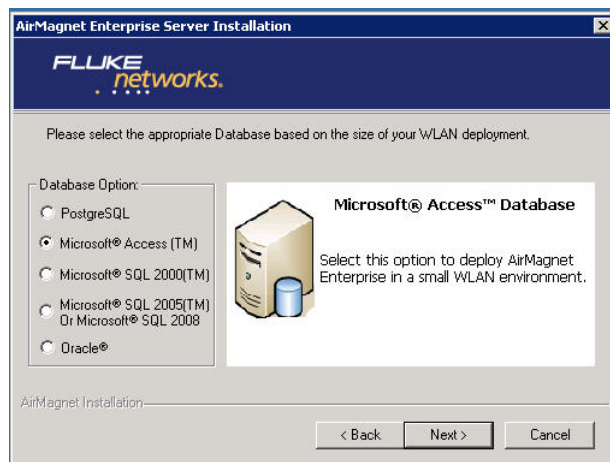

Figure 2-1: Selecting a database server
- 3) The database server selection dialog appears. Select a database option and click Next. See Figure 2-1.
- 2) Install the primary AirMagnet Enterprise Server on a second PC, making sure it points to a database on the Microsoft SQL or Oracle Database Server. Refer to Figure 2-1.